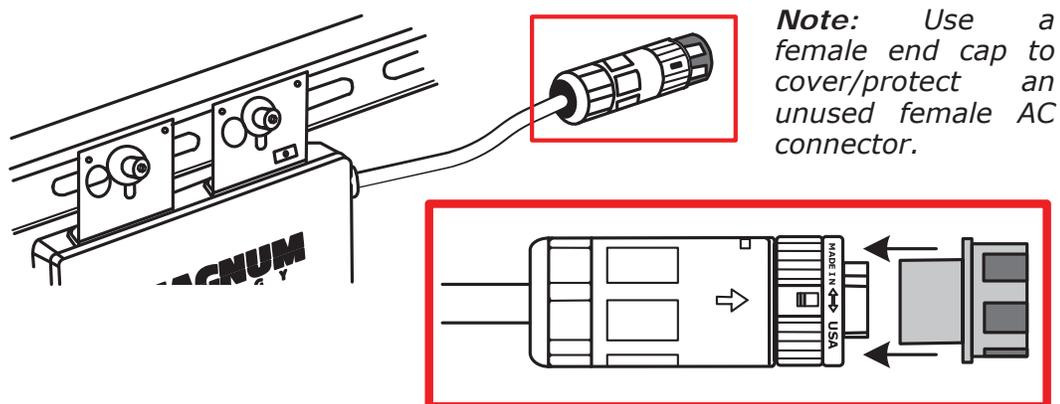

Figure 9, AC Connector Protective End Cap
3. Install a female protective end cap (ME-MGT-ENDCAP-F) on the open female AC connector of the last microinverter in the AC branch circuit (Figure 9).